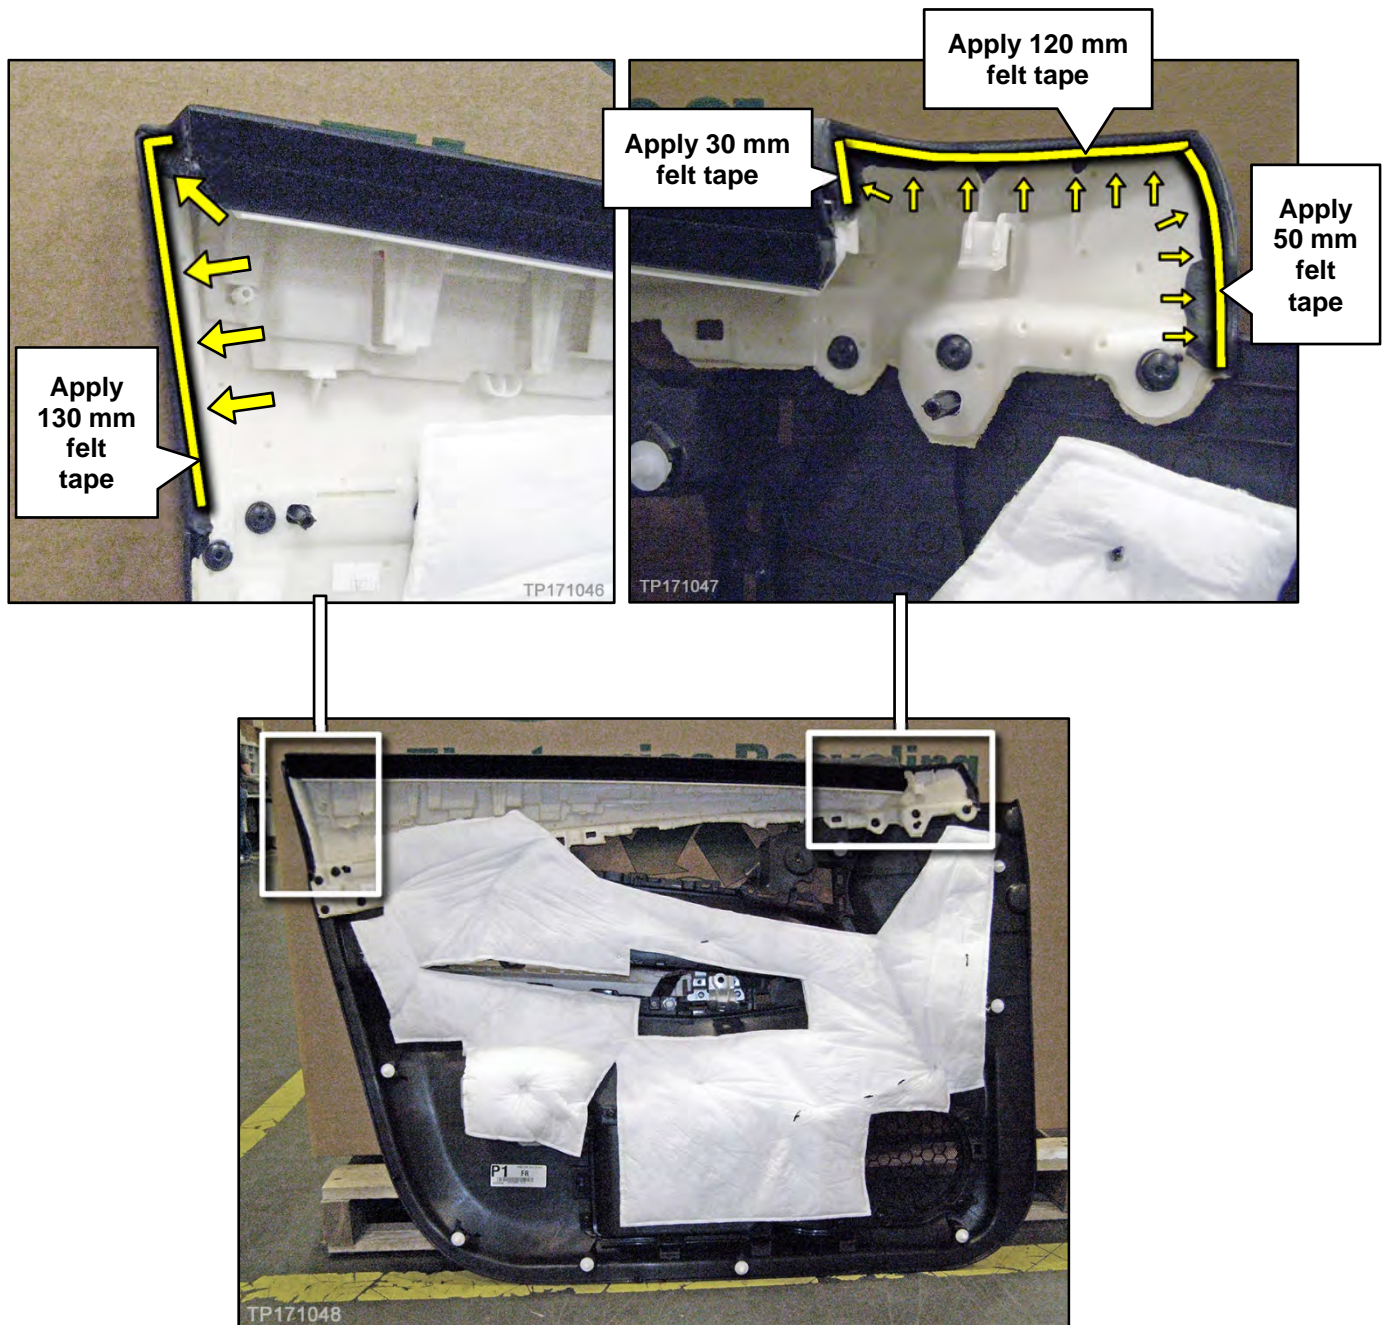

Figure 2
3. Apply felt tape to the areas indicated in Figure 2 on page 3.